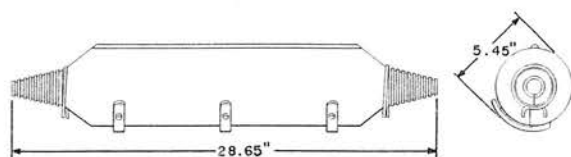

Fig. 2
**4B1:** Used for enclosing straight splices of aerial polyethylene insulated conductor cable of 2.2 inches and less. On cables 1.1 inches to 1.5 inches diameter, two inner sheath clamps (P-18E117), and a 138A Adapter are required and must be ordered separately. See Fig. 2.